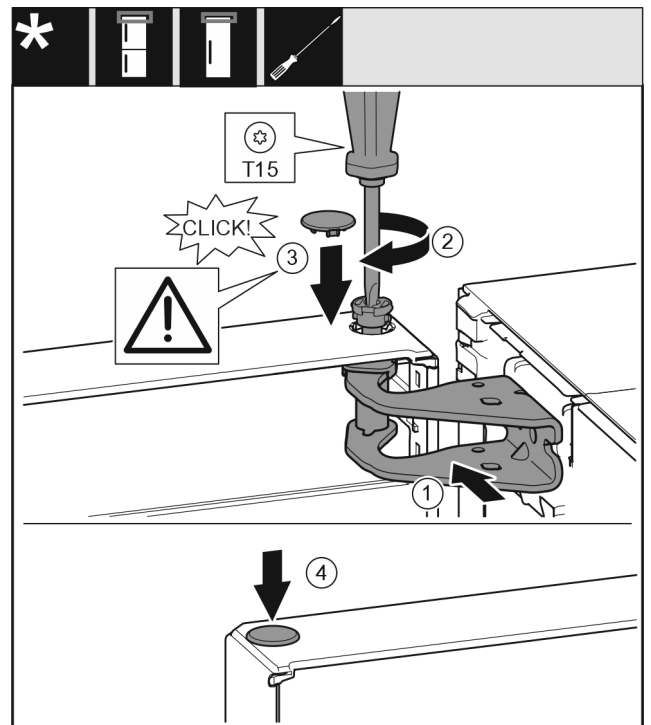

Fig. 19
- ▶ Align the top of the door with opening in the bearing bracket. Fig. 19 (1)
- ▶ Insert the bolt and tighten with a T15 screwdriver. *Fig. 19 (2)*
- ▶ Fit the protective cover to protect the door: Insert the protective cover and check that it lies flush on the door. If not, insert the bolt fully. *Fig. 19 (3)*
- ▶ Insert the plugs. *Fig. 19 (4)*